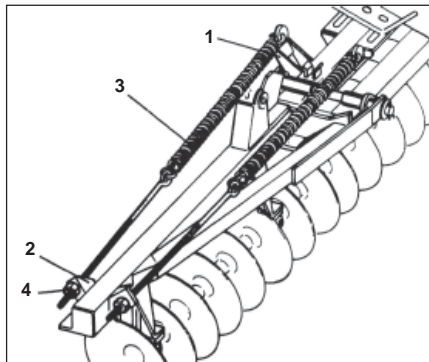

FIGURE 10
JOINT SPRING ASSEMBLY (FIGURE 10)
19 - Put the spring item 3, **FIGURE 10**, in support of the central frame item 1, put the adjustment rod item 4 on the other end of the spring and insert it in the side frame support item 2.